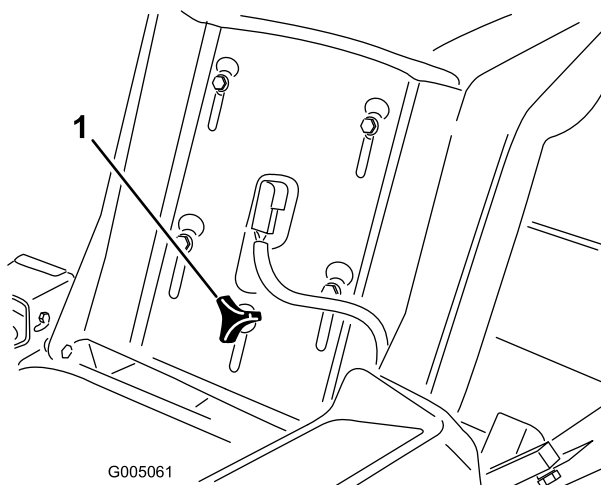

Figure 16
1. Raise the seat and loosen the adjustment knob just enough that seat can move (Figure 16).